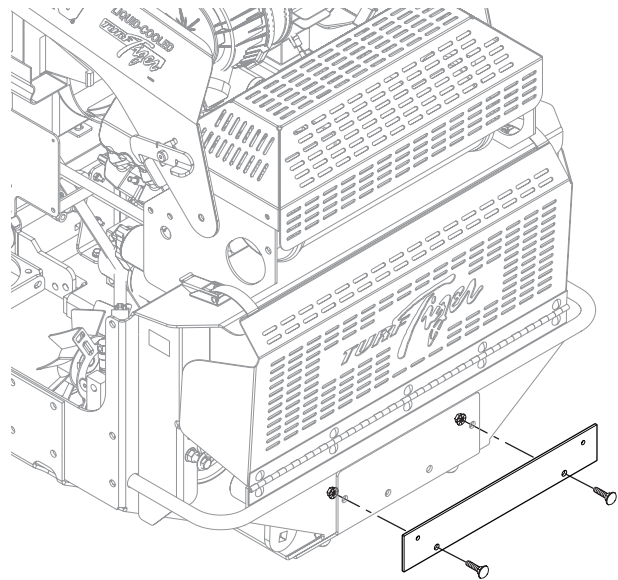

Figure 2-11. STT Hopper Mounting Hole Template
- Remove the upper mounting hardware from the rear spindle cover and install the template. See Figure 2-11.